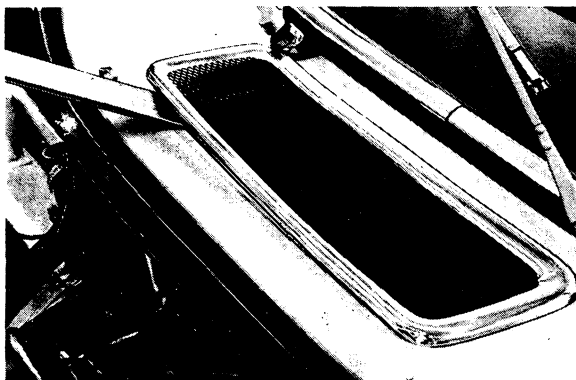

Fig. 8-55. Removing air intake grille
1. Remove the fresh-air grille with the help of a wooden putty knife (see Fig. 8-55).